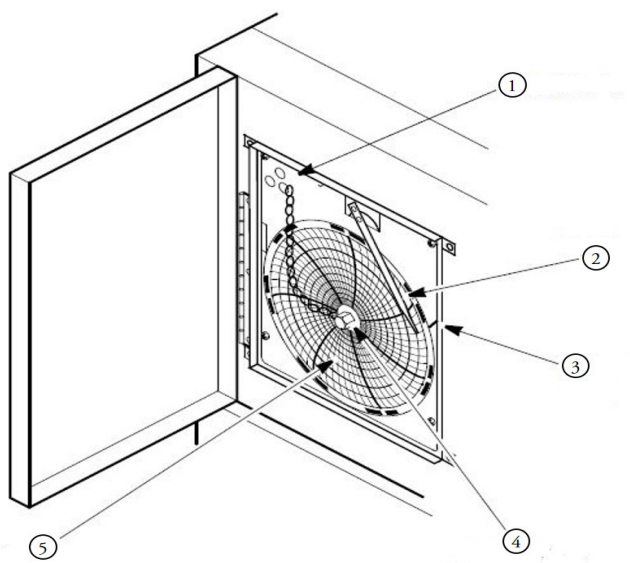

Figure 15. Chart Recorder
3. Unscrew the center nut, remove the old chart paper, and install new chart paper. Carefully align the day and time with the reference mark on the recorder panel (a small groove on the left side of the panel, as shown in *Figure 15*).